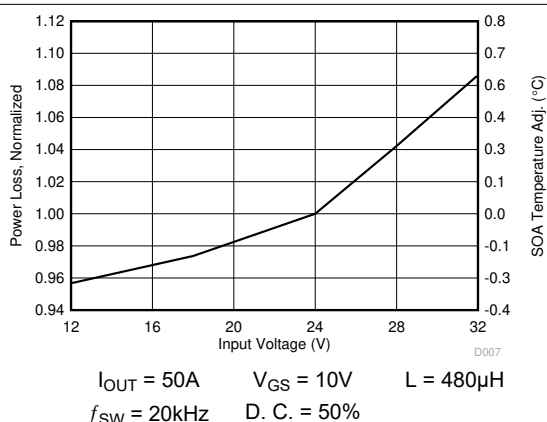

图 4-5. Normalized Power Loss vs Input Voltage
- Normalized power loss for input voltage \approx 1.09 (图 4-5)
- SOA adjustment for input voltage \approx 0.6°C (图 4-5)